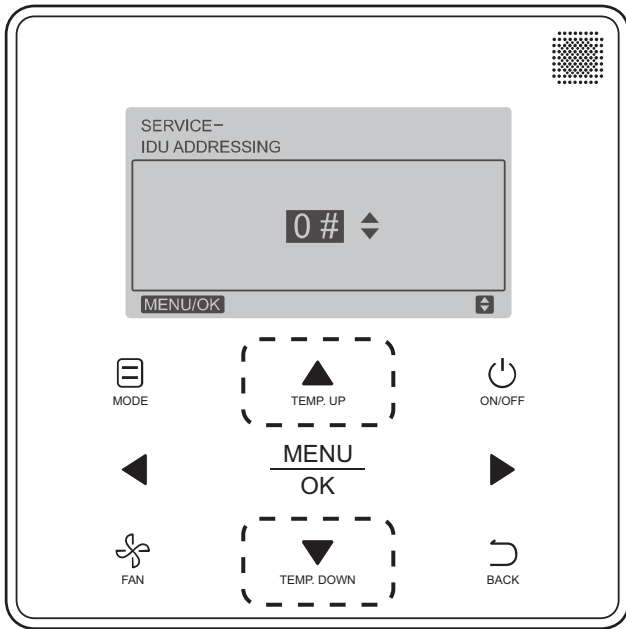

Fig. 28 —Programmable Controller Setting IDU Address
3. Press **TEMP. UP** or **TEMP. DOWN** to choose the address you want to set. See Fig. 28. Press **MENU/OK** to send this address to the IDU.